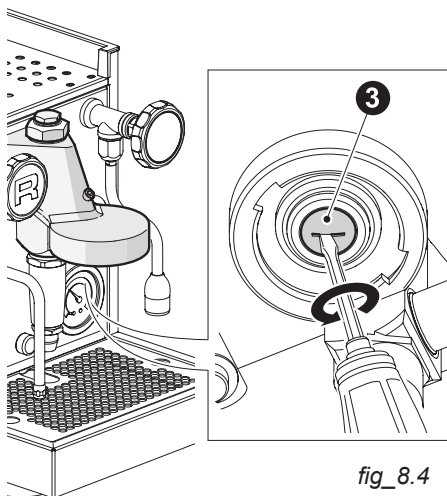

fig. 8.4
2. With the same screwdriver, unscrew the diffuser (3) from the head (fig. 8.4).